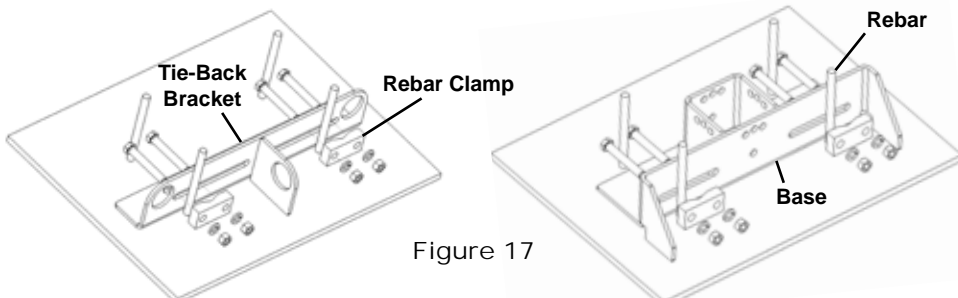

Figure 17
2. For installation to rebar (see Figure 17): Place base and tie-back bracket on concrete beam a minimum of 36" apart from mounting rebar to mounting rebar in the chosen configuration. Both the base and bracket must be flush against two sections of rebar, aligning the rebar within the slotted openings. Install rebar clamps as shown. Secure each of the four rebar clamps to the rebar and base or tie-back bracket using the bolts, washers and nuts. Torque to 75ft.-lbs.